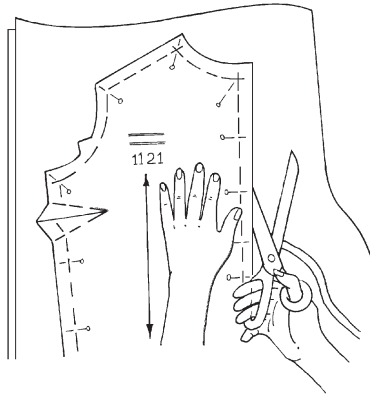

Fig. 6-6
1. Cut out your fabric, following the outside edges of the cutting lines carefully. Do not cut on the fold line. Hold the pattern and fabric flat with one hand as you cut with the other to prevent the layers from shifting. Move around the table as you work instead of moving the fabric. (Fig. 6-6)